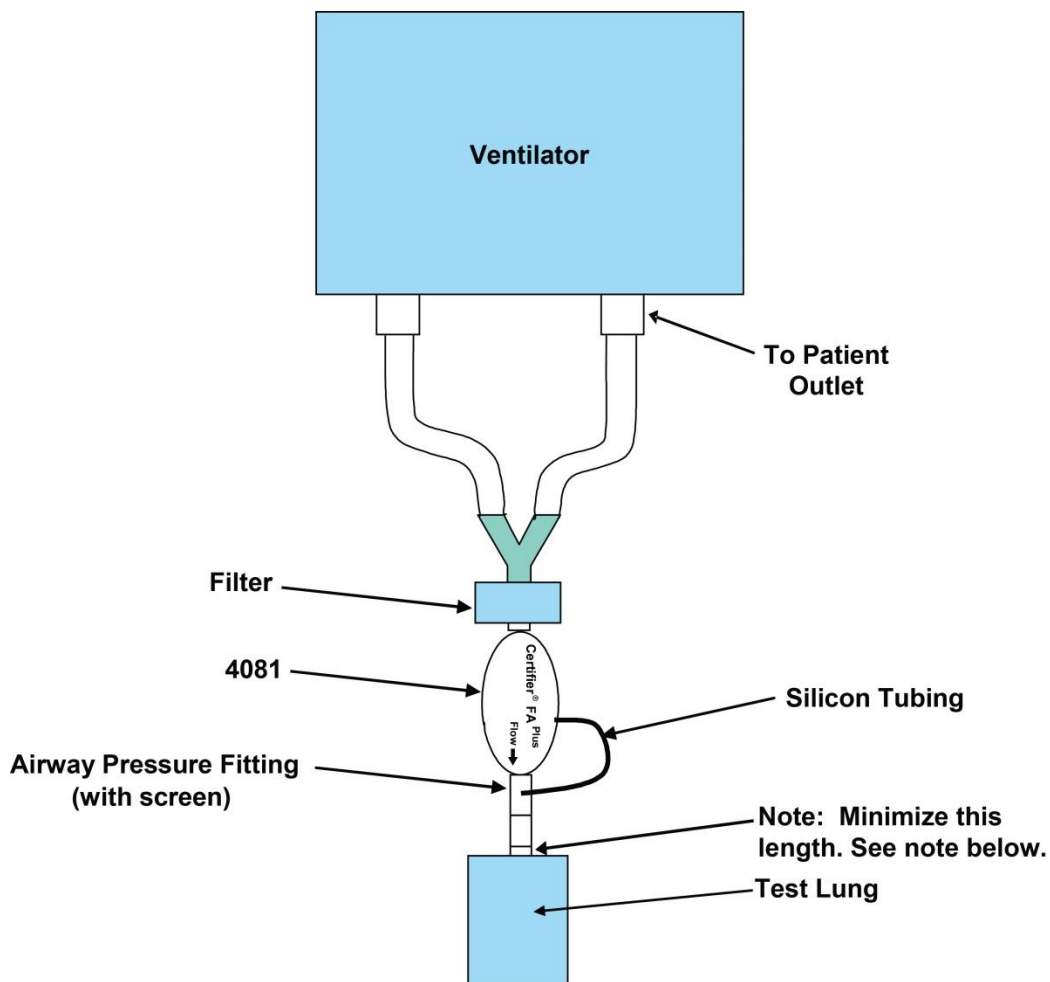

**Figure 10. Connecting the Interface Module to a Flow Module**
3. Connect the Interface Module to a flow module (Figure 10). To remove the cable, pull its locking connector (not the cable) from the Interface Module.